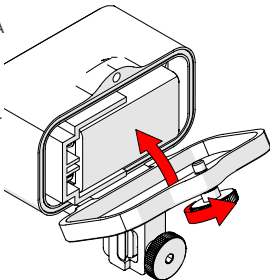

Fig. 36 - Close battery compartment
4. Close the battery compartment and tighten the knob (Fig. 36).